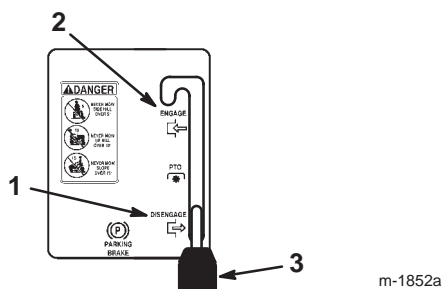

Figure 8
3. Shift the blade control (PTO) lever to Disengaged (Fig. 8).